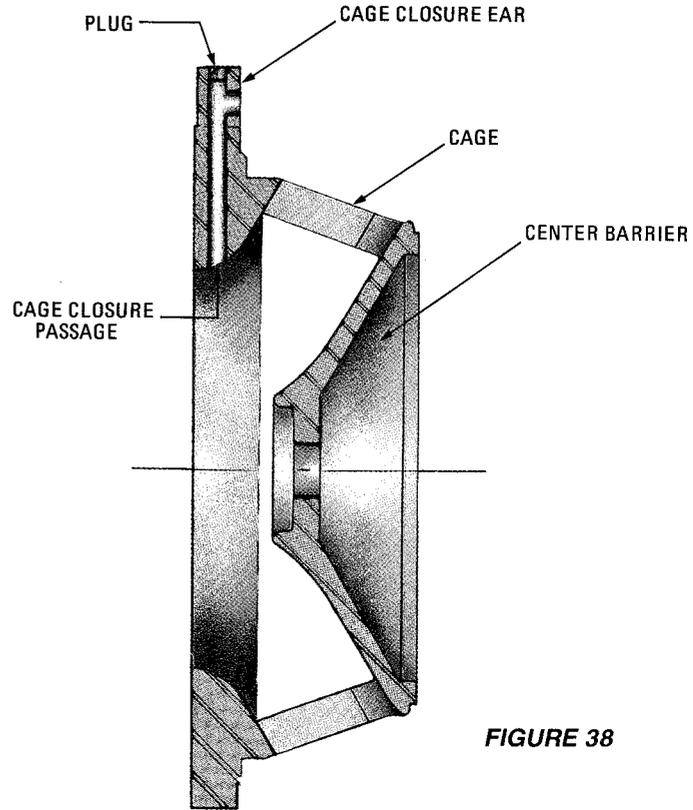

FIGURE 38
4. Clean cage closure (**Figure 38**). Inspect for erosion and keep track of the downstream cage closure by placing it to the right. Discard cage closure that shows noticeable erosion or has reduced the thickness or width of the cage ribs. (A slight rounding of edges of the ribs will not affect the valve.)